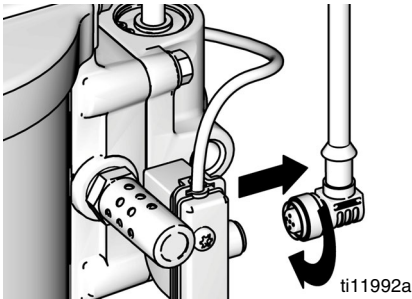

FIG. 33. Disconnect DataTrak
1. Unscrew cable from the back of the reed switch assembly. See FIG. 33.